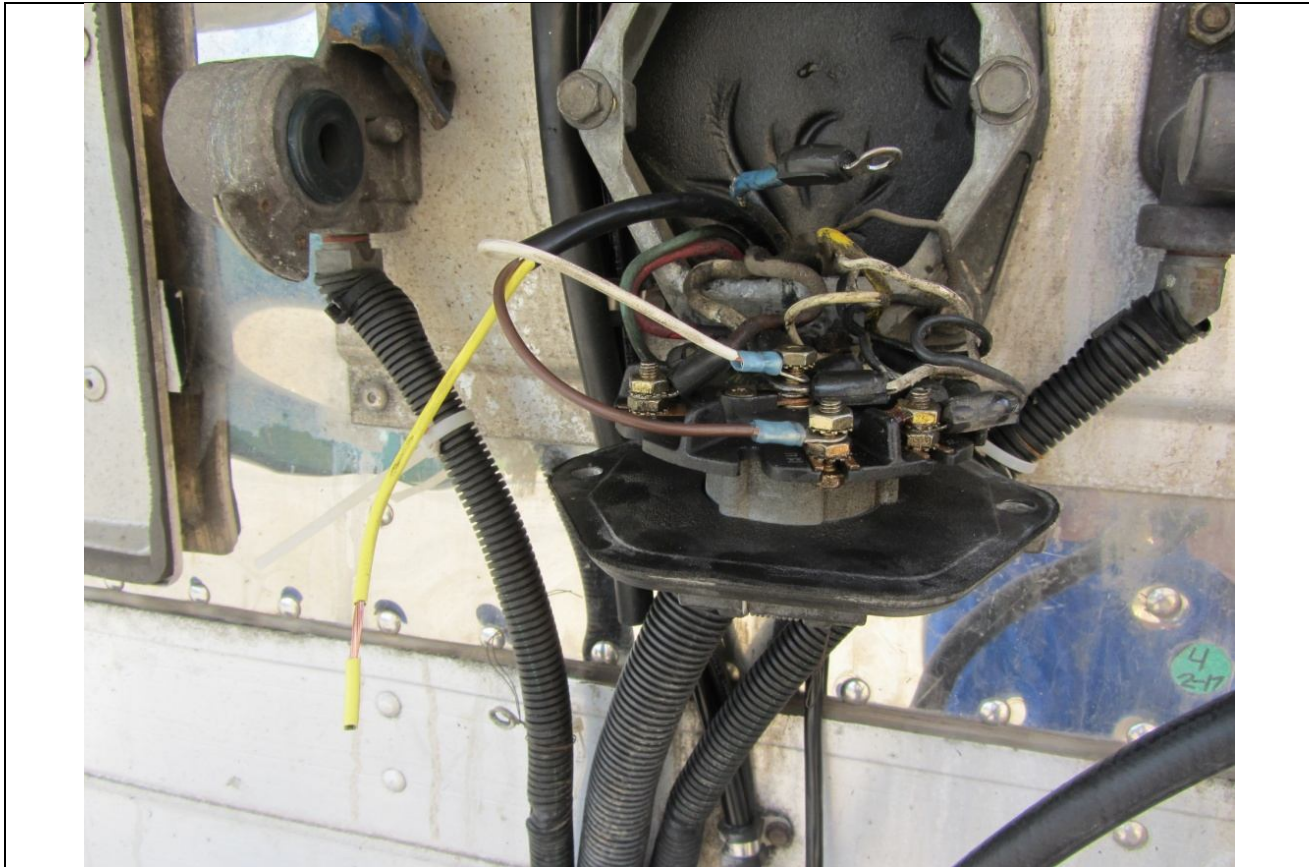

Figure 32
- Remove the cover to the trailer 7 pin connector box. See Figure 32